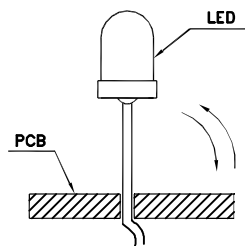

Fig. 8
5. Do not bend the leads more than twice. (Fig. 8)